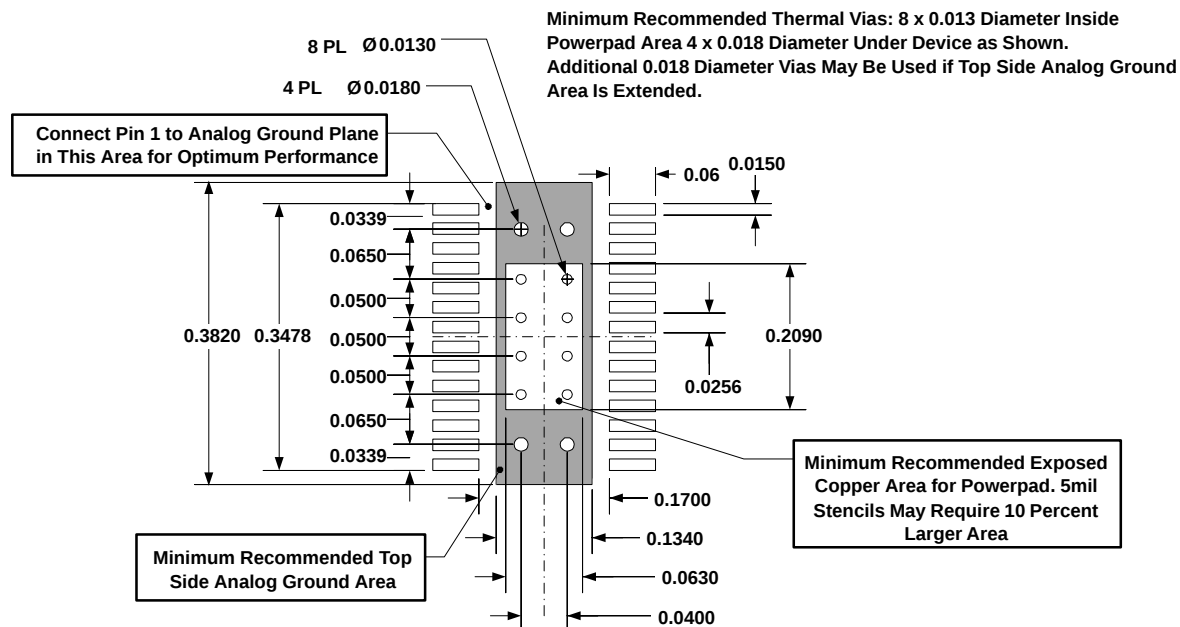

Figure 9. Recommended Land Pattern for 28-Pin PWP PowerPAD
(1) Specified by design
(2) Static resistive loads only
(3) Specified by the circuit used in Figure 9
(4) Matched MOSFETs low-side r_{DS(on)} production tested, high-side r_{DS(on)} specified by design